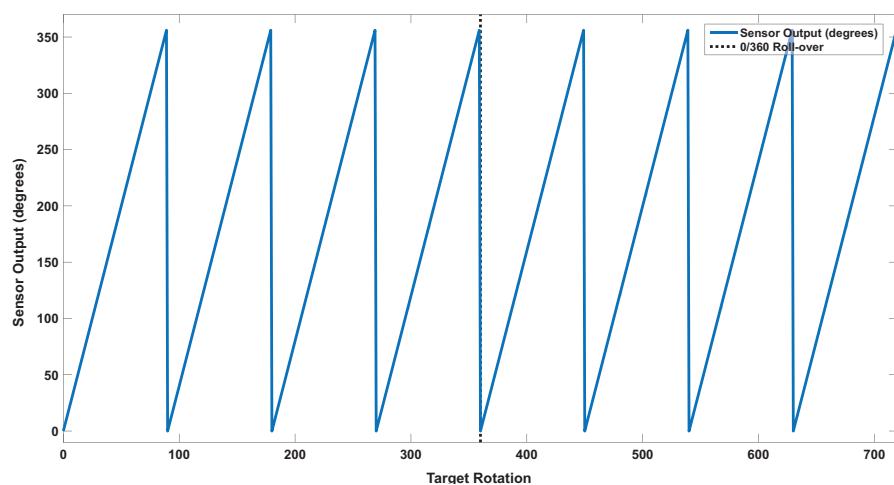
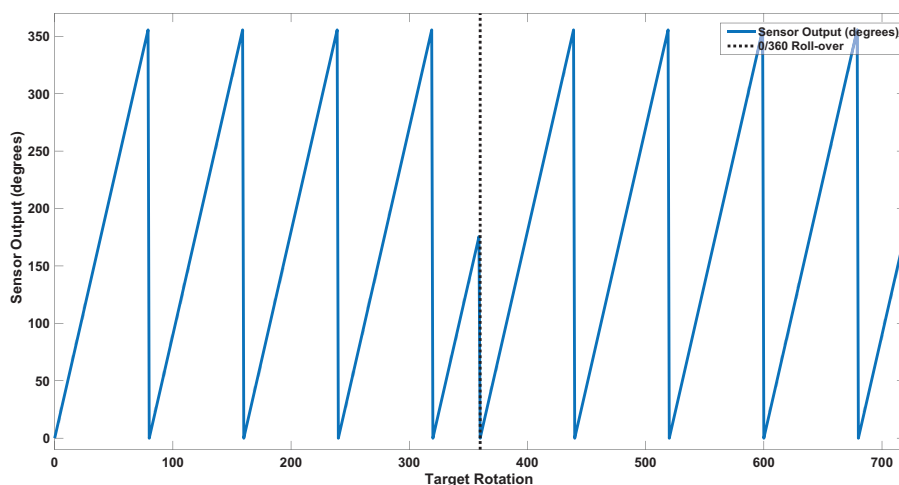

Figure 19: A1330 Output (in degrees) with 4.0× Gain
Figure 20: A1330 Output (in degrees) with 4.5× Gain
When applying a non-integer gain, an asymmetric transfer function will result, causing the output to jump to the minimum allowed output value before reaching the maximum allowed output value. As an example, if a gain of 4× is applied, with Clamp Enable (CE) and Roll-Over Enable (ROE) set to 0, the output angle will slew from 0-360° four times for a single 0-360° target rotation (this is shown in Figure 19 for 2 rotations of the target). However, if a gain of 4.5× is applied, the output will slew from 0-360° four and a half times. This results in a jump from 180° output to 0° output, at the 360° input position (shown in Figure 20).